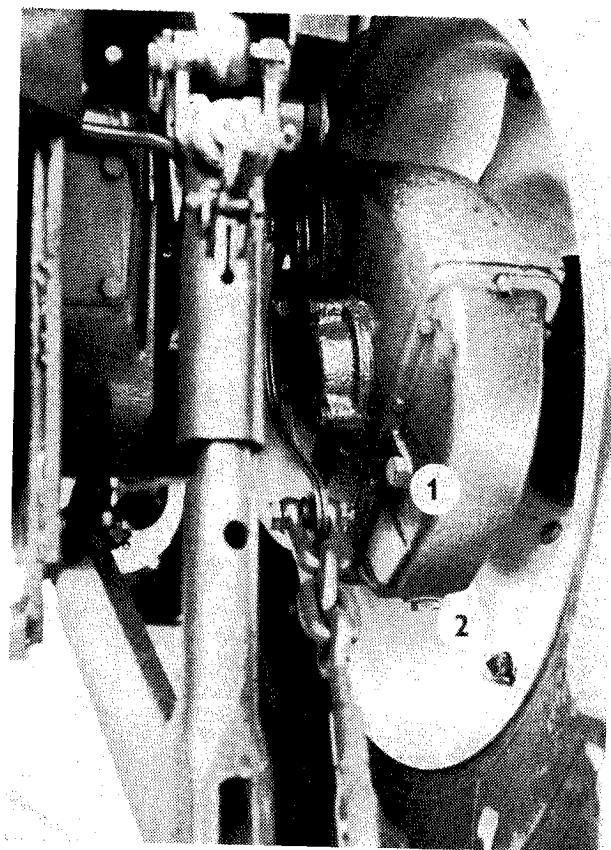

Fig. 12
- 15. Rear half-axle portal oil filling hole (Fig. 12/1).
- 16. Rear half-axle portal oil drain plug (Fig. 12/2).